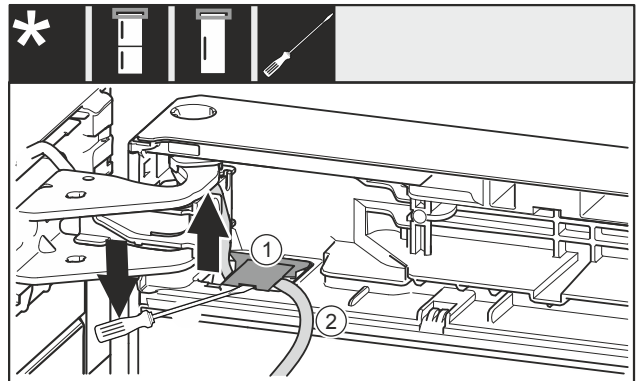

Fig. 23
- ▶ Use the screwdriver to lift up the cover Fig. 23 (1) and pull it out.
- ▶ Pull out the cable Fig. 23 (2).